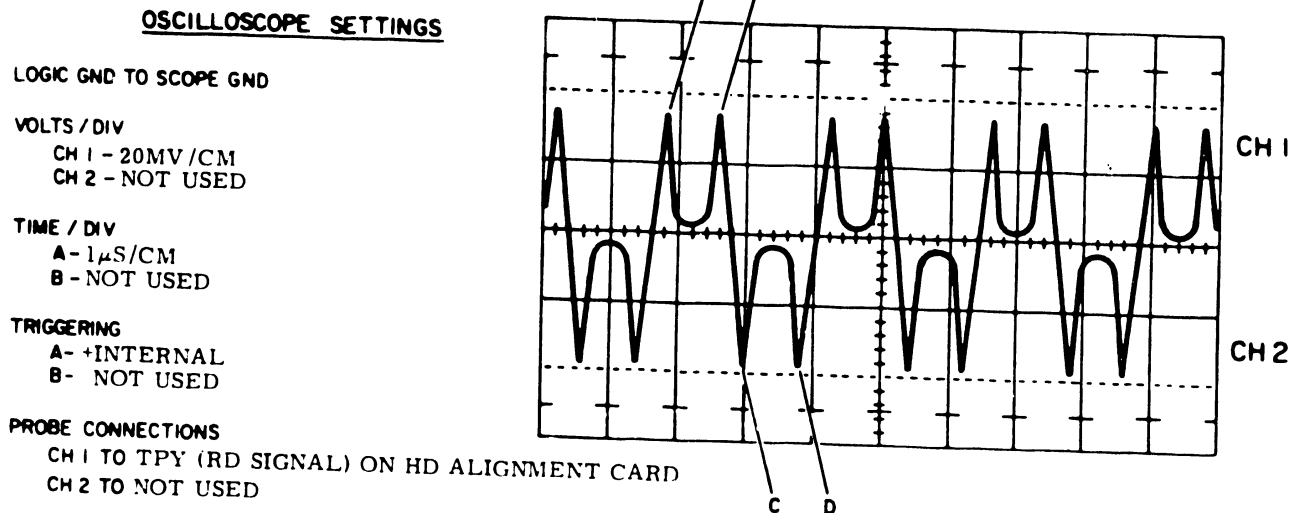

FIGURE 4-28 HEAD ALIGNMENT WAVEFORM
- a. Setup the oscilloscope as indicated on Figure 4-28.
- c. Adjust the head to obtain balanced dibit pattern on oscilloscope (refer to Figure 4-28). The pattern is balanced when the amplitude of points A and B are equal and when the amplitude of points of C and D are equal.